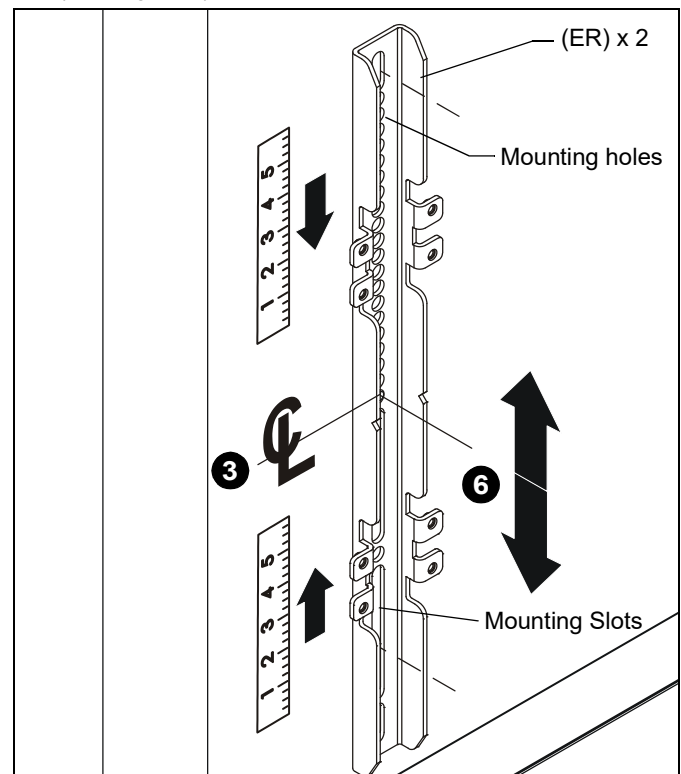
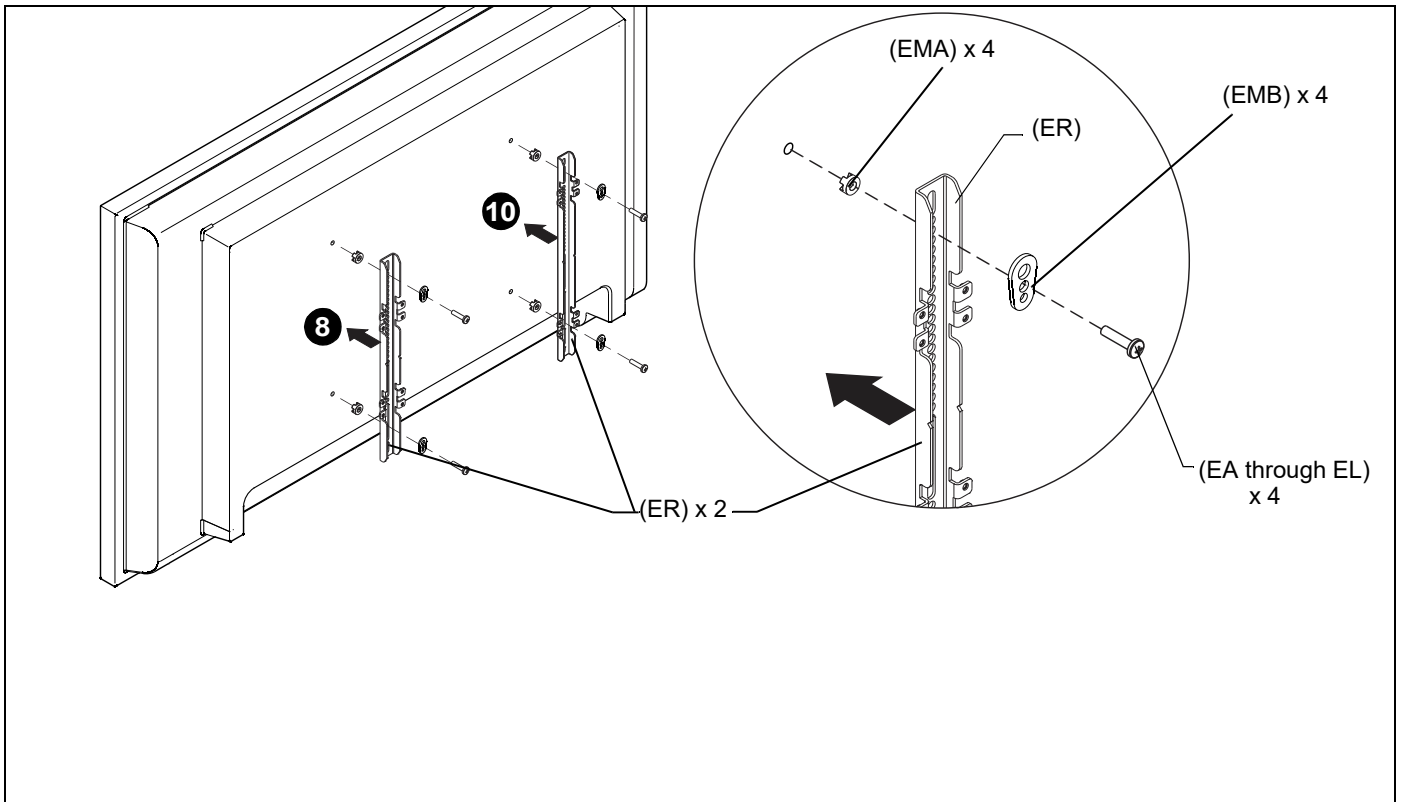

Figure 3
Figure 5
5. Determine and mark the vertical center position between the Left side Upper and Lower mounting holes in display. (See Figure 3)
6. Determine and mark the vertical center position between the Right side Upper and Lower mounting holes in display. (See Figure 3)
7. Orient vertical mounting bracket (ER) so that mounting holes are on top and mounting slots are on bottom. (See Figure 3)
8. Align mounting holes in vertical mounting bracket (ER) with upper and lower mounting holes in display.
9. Adjust vertical mounting bracket (ER) position until mark made in Step 1 aligns with center mark in vertical mounting bracket (ER).
10. Select correct screws, nesting spacers (if necessary) and universal washers (if required) from the hardware bag (EA-EM) and attach brackets to back of screen. (See Figure 5)
11. If the display has a recessed mounting surface, protrusions or a power box, a spacer and longer mounting hardware must be placed between the display and vertical mounting bracket (ER). (See Figure 5)